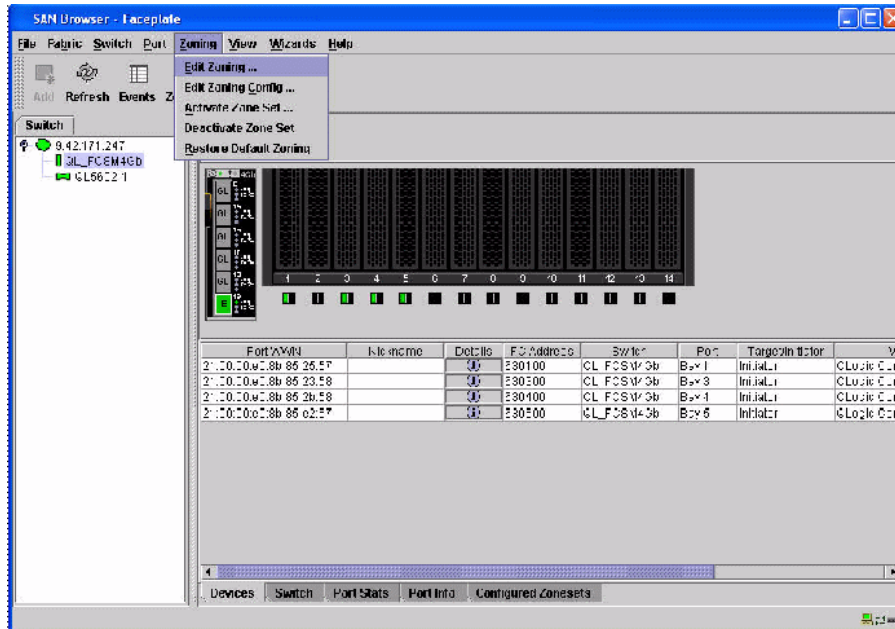

Figure 7-20 SAN Browser - Faceplate window
10. From the Faceplate dialog window, select **Zoning** → **Edit Zoning** (Figure 7-20).